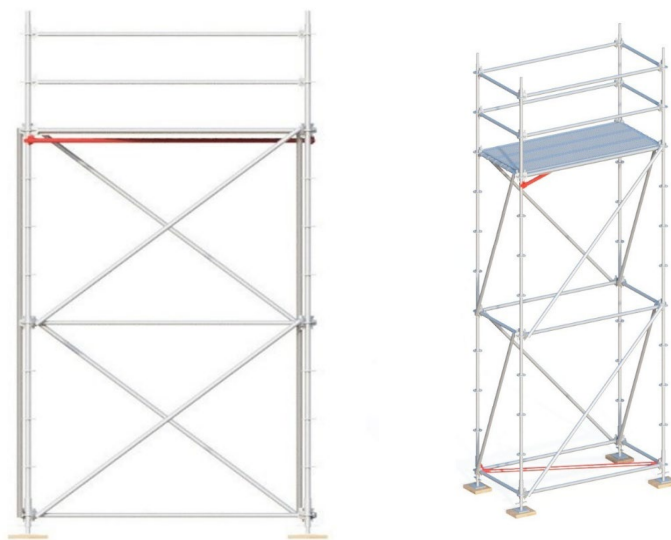

Figure 2 - FSS Tower with Plan Braces
- 2.1.1. Freestanding towers should have horizontal braces installed at the base, at increments of every third lift, and beneath deck height. DSS recommends using DSS plan bracing and bracing at rosette level. If DSS plan bracing is not available or not possible to install for the bay sizing, tube and clamp may be used as plan bracing. See Figure 2 and refer to Table 1 for the different Plan Braces available.